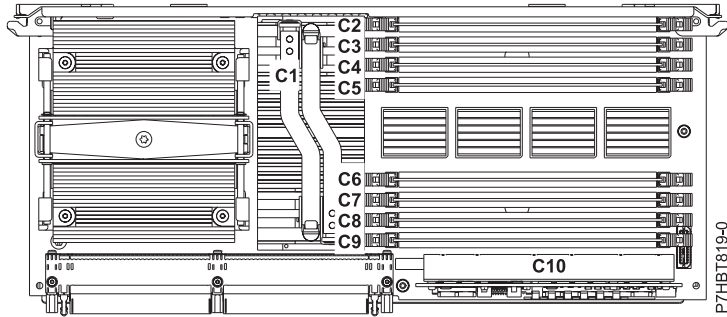

Figure 5. Memory voltage regulator module location (C10)
- a. Loosen the screws (A).
- b. Slide the cover (B) from under the flange (C) and remove from the system processor assembly.
13. Locate the memory voltage regulator module to be removed from the system processor assembly. Figure 5 on page 7 shows the memory voltage regulator (C10) in relation to the location on the system processor assembly.